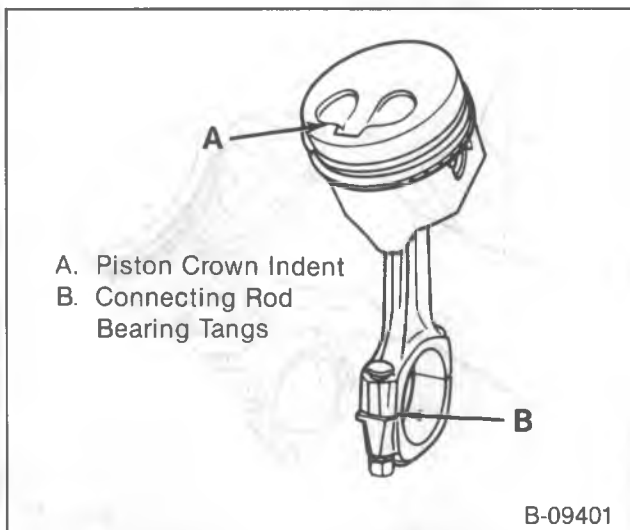

Figure 14—Aligning the Piston and Connecting Rod
- The piston must be installed with the piston crown indent on the same side as the connecting rod bearing tang slots (figure 14).